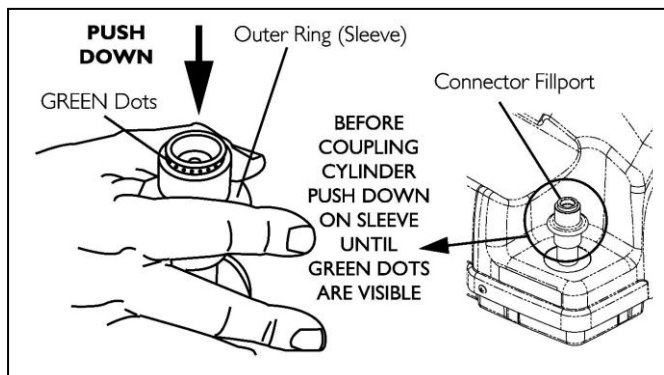

Figure 1
4. Momentarily push **DOWN** on the outer ring (sleeve) of the connector fillport until **GREEN** dots are visible to reset the connector (Figure 1).